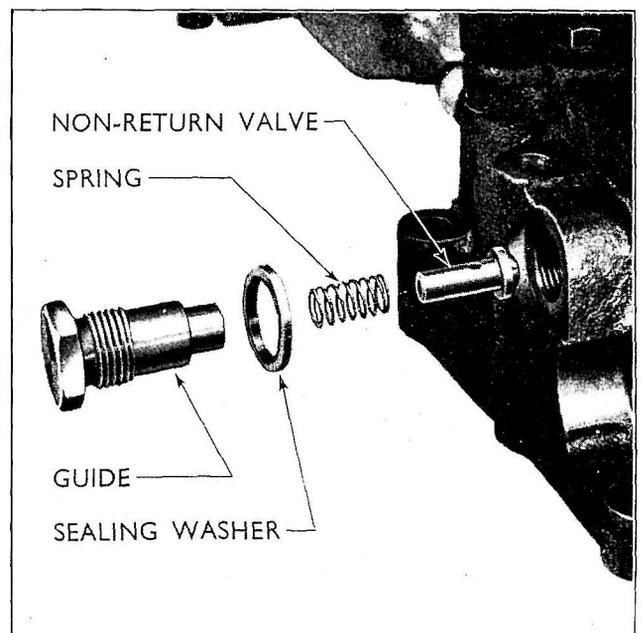

Fig. 190
- 7 Refit the non-return valve by placing the special washer on the guide, locate the valve and spring in the guide and screw the assembly in the bore (see Fig. 190).